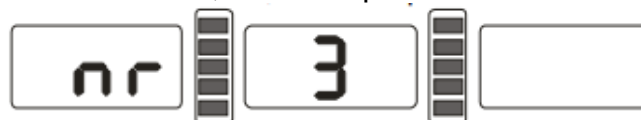

Figure 10-13
10.6.1 Press a+ key, back to figure 7-1 interface, press D key and OPT key, display input numbers of spoke(figure 10-13),press b+ or b- key input spoke numbers, press D key and OPT key to save and return, slowly turn the wheel, turn the near by imbalance position of spoke on the top(12 o'clock),press D and OPT key to enter hide stick mode, and then press D and OPT key to exit;